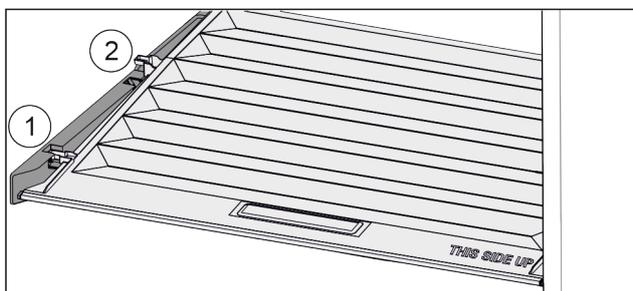

Fig. 130
- ▶ Pull the lid up at the front to the opening in the retaining parts Fig. 130 (1).
- ▶ Lift from the back and pull it up and out Fig. 130 (2).